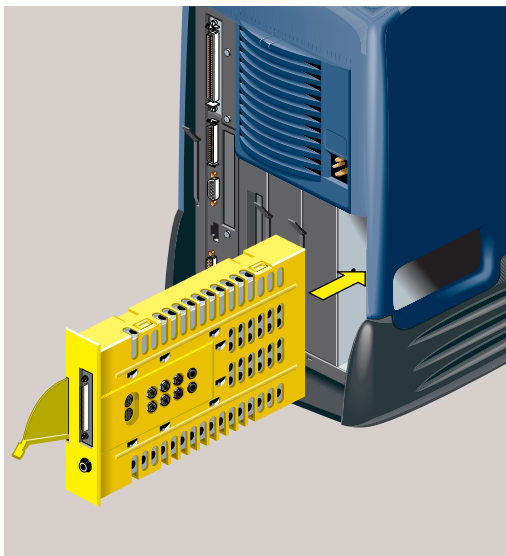

Figure 3-9 Reinstalling the Audio-Visual Module in the Chassis
9. Slide the audio-visual module back into the bay on the far right of the chassis (Figure 3-9).
11. Reconnect the power cable to the rear of the workstation. Reconnect any audio and video cables you removed from the side panel of the workstation (Figure 3-9).